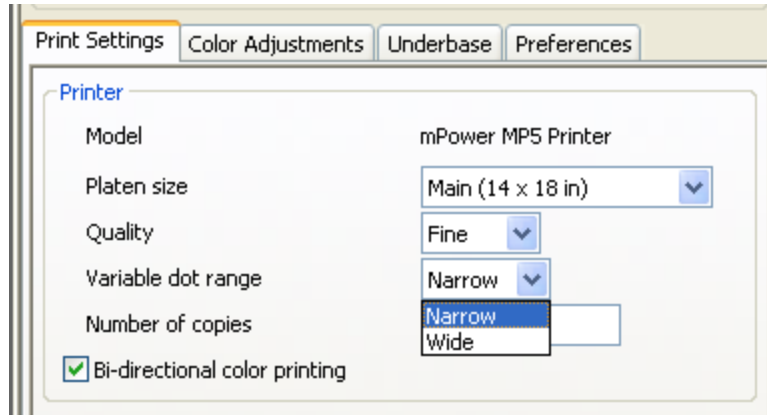

Figure 5.3k: Variable Dot Range
- You will now need to select a Variable Dot Range, the default setting is Narrow. The Variable Dot range will control the amount of ink saturation on a print. The Variable Dot range can also be adjusted when printing on different types of garments. A Narrow Variable Dot Range for a thin material and a Wide Variable Dot Range for a sweatshirt for example. (see figure 5.3k)